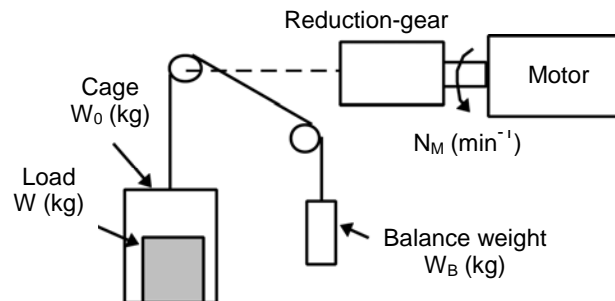

Figure 3.8 Vertical Lift Load
A simplified mechanical configuration is assumed as shown in Figure 3.8. If the mass of the cage is  $W_0$  (kg), the load is  $W$  (kg), and the balance weight is  $W_B$  (kg), then the forces  $F$  (N) required for lifting the load up and down are expressed as follows:
The moment of inertia  $J$  ( $\text{kg} \cdot \text{m}^2$ ) of the loads connected with a rope as shown in Figures 3.8 and 3.9 is calculated with the following equation using the mass of all moving objects, although the motion directions of those loads are different.